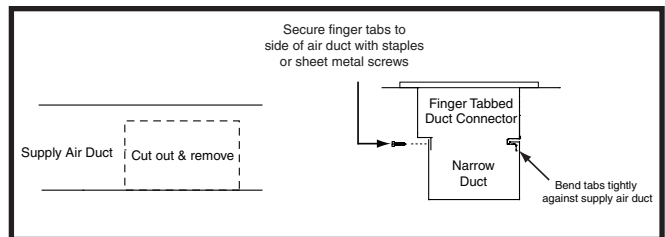

Figure 14. Narrow Ducts - Option 2
1. Cut and remove the top of the supply air duct as shown in Figure 14.
3. Bend the tabs on the bottom of the duct connector upwards and as tight as possible against the supply air duct (Figure 14).